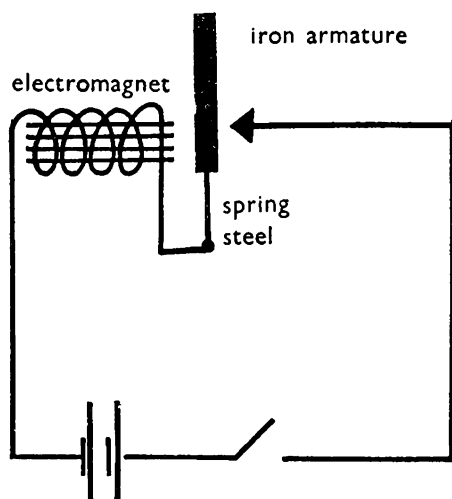

Fig. 318
An electro-magnet consists of a coil of wire wound round an iron core. Fig. 318 shows such a magnet used to operate a buzzer or electric bell. The spring steel holds the armature against the contact when the switch is open. *Can you explain how it operates when the switch is closed?* (4) Buzzer kits are available commercially₁₂.